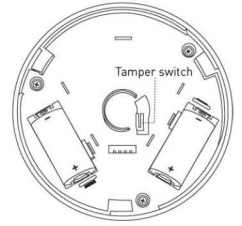

Figure 4
5. Enroll the Glass Break Detector by pressing and holding the tamper switch for 2 seconds (see Figure 4).
WARNING! The polarity of the battery must be observed, as shown (See Figure 4). Improper handling of lithium batteries may result in heat generation, explosion or fire, which may lead to personal injuries. Replace only with the same or equivalent type of battery as recommended by the manufacturer. (see *Specifications*)